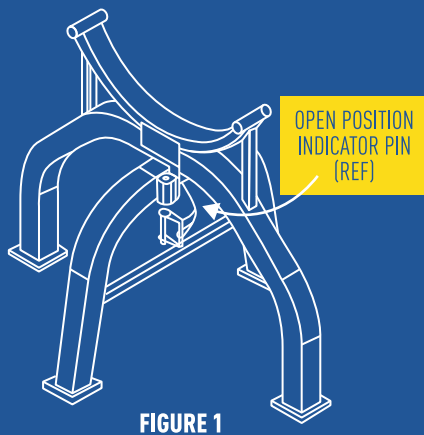
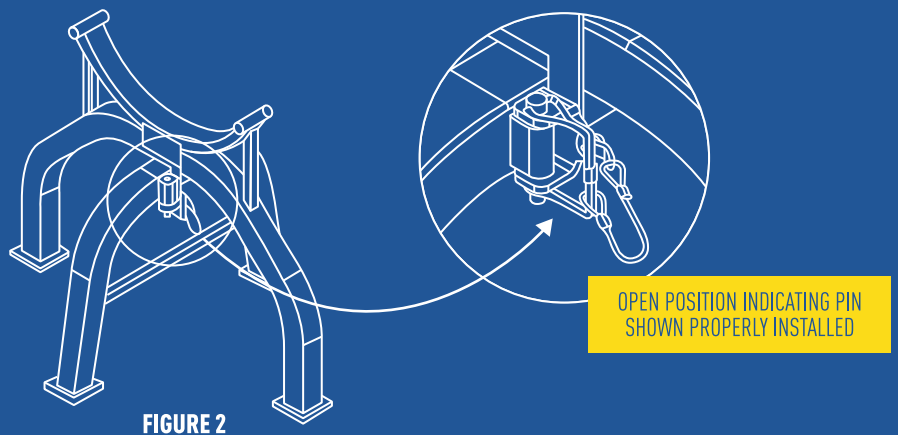
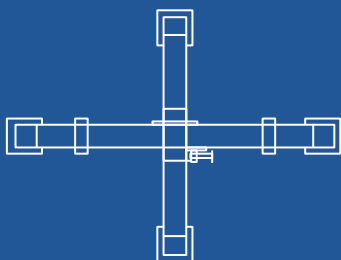

FIGURE 1
FIGURE 2
FIGURE 3
STEP 1 Swivel the legs of the PoleProp to the full, open position prior to use. Ensure that the inner leg firmly contacts the stop. (See Fig. 3.) When fully opened into proper position, "open position locating pin" should be installed with retaining clip positioned over pin. (See Figs. 1 and 2.) PoleProp should not be used unless fully opened and "open position locating pin" properly installed as shown. (Figs. 2 and 3.)